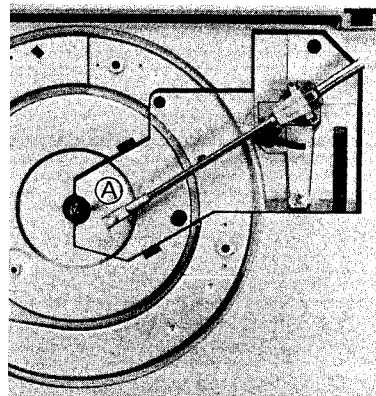

Fig. 7
4. Move the tonearm in direction of the center spindle as shown in Fig. 7.
2. Set the tonearm as in Fig. 7.